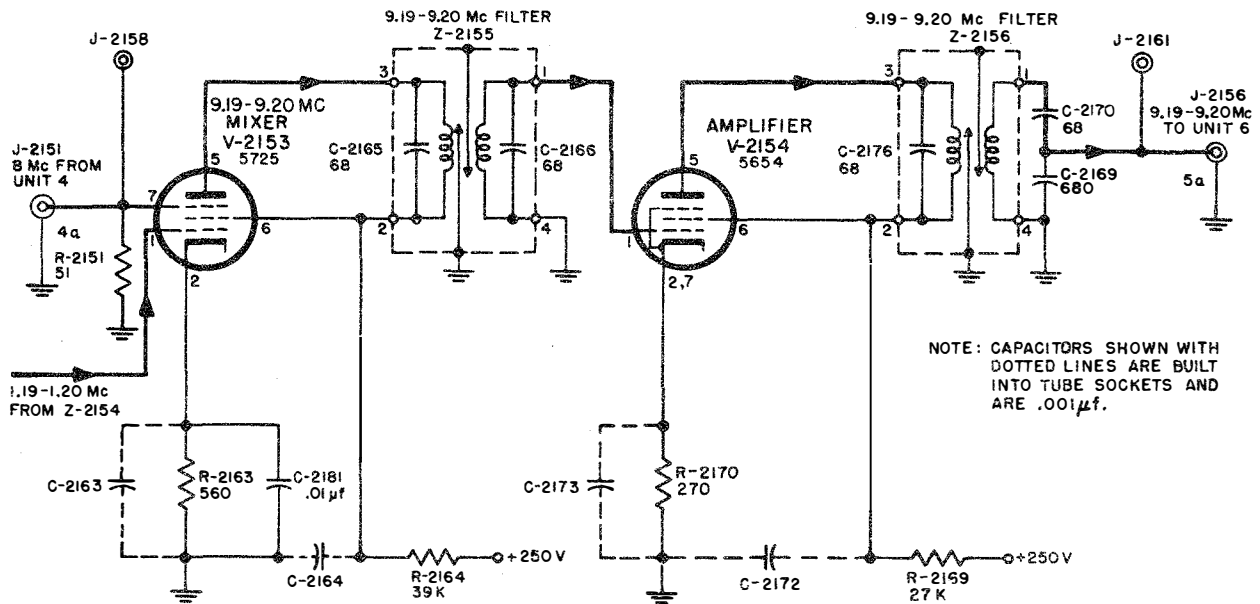

Figure 2-14. RFO Unit 5, 9.19- to 9.2-Mc Mixer V-2153 and Amplifier V-2154, Simplified Schematic
(3) 9.19- TO 9.2-MC MIXER V-2153 AND AMPLIFIER V-2154.—An 8-mc signal (4a) from unit 4 is applied to the suppressor grid of mixer V-2153 (figure 2-14). The 9.19- to 9.2-mc output is filtered by Z-2155, amplified by V-2154, filtered again by Z-2156, reduced in amplitude by voltage divider C-2170 and C-2169, and fed to the output receptacle, J-2156, from which it is transmitted to unit 6. Test points J-2158, J-2159, and J-2160 are provided for testing inputs 4a (approximately 1.2 volts), 2b (approximately 1.2 volts) and 1b (approximately 0.36 volt), respectively. Test point J-2161 is provided for testing the output 5a (approximately 1.3 volts) of unit 5.